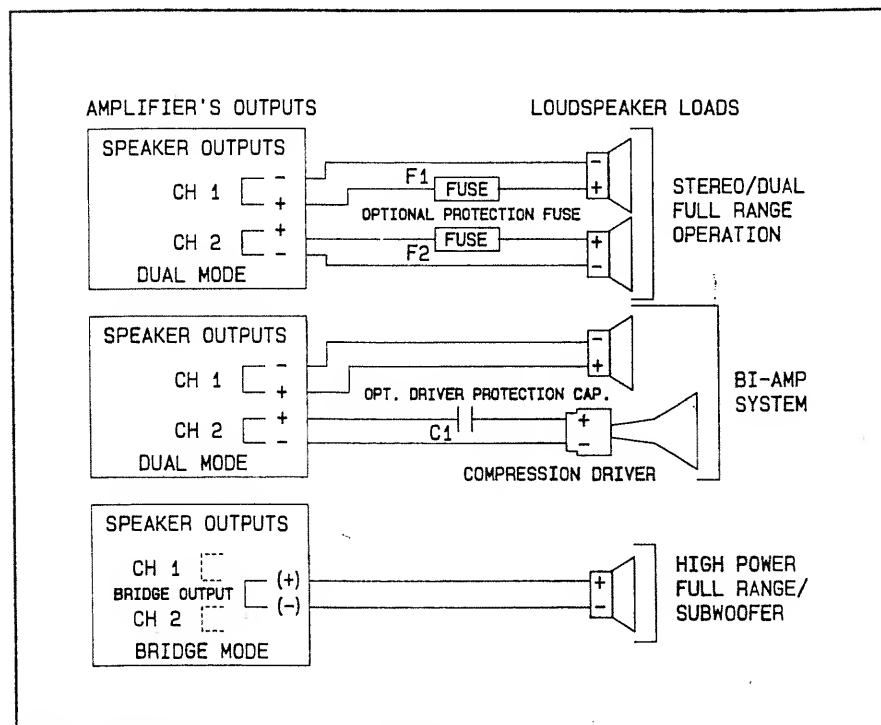

Figure 4 Typical Output Connections
Output connections are made to the binding post connectors located on the rear. The Red post is the high (+) output and the Black post is the low (—) output. Refer to Figure 4 for typical output connections.
Use 32 volt fuses if possible; they typically have the lowest internal resistance which will help minimize deterioration of the damping factor at the load. Refer to the example in Figure 4.
Compression drivers, used for mid to high frequency sound reproduction, are much more susceptible to damage from low frequencies than large cone loudspeakers. Even though an electronic crossover may be employed, problems may arise in the cables between the crossover and the power amplifier, or from misadjustment of the crossover. Either of these situations could apply low frequency signals or hum to the driver and cause damage. To prevent a potential mishap, Electro-Voice recommends using a capacitor between the amplifier and the compression driver to suppress low frequencies and possible DC. Refer to the example in Figure 4.
3. Verify that the output connections are properly made. Refer to Figure 4.